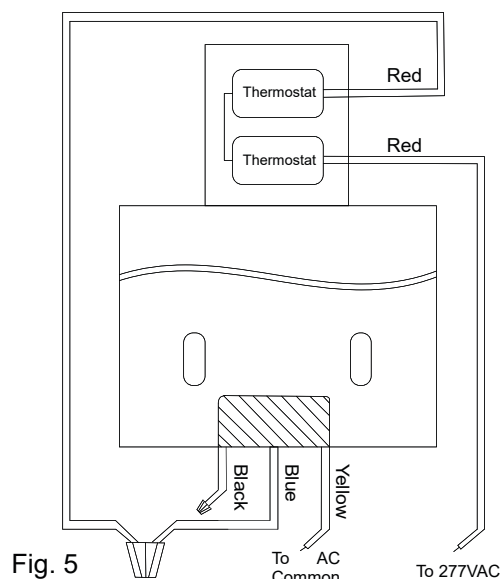

Fig. 5
3. For an external switch: remove the jumper between terminals 1 and 2, connect the switch device between terminals 1 and 2, and slide the slide switch to the Wall Switch position (see Fig. 5 for wiring connections). The external switch connections must be fully isolated from any other circuitry.
- Fig. 5 Wire diagram for wall switch
- Fig. 5: 277V heater pad wiring diagram